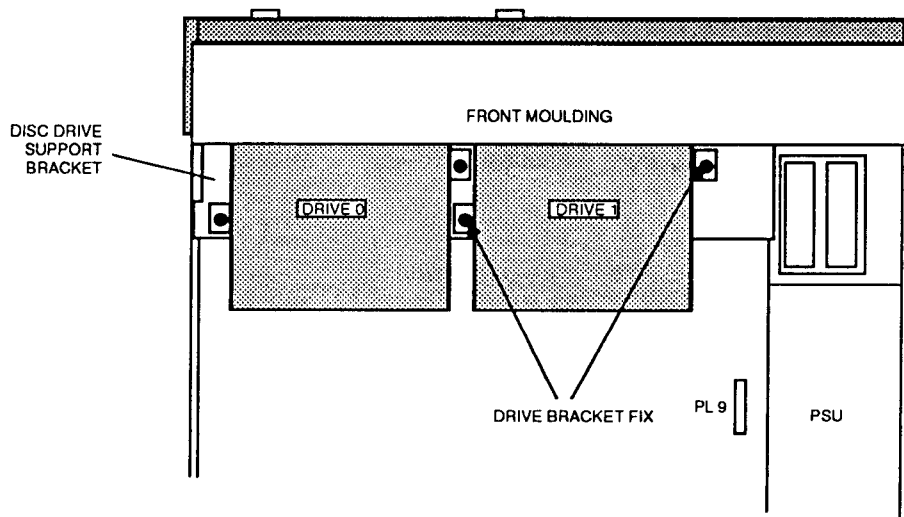

Fig. 4 – Installing the new Drive 1
2. Stand the unit back on its feet and unplug the LED/speaker connector PL9 from the main board (see Fig. 4). Grasp the front moulding assembly at each end and use a straight, steady pull to withdraw it from the front of the unit.